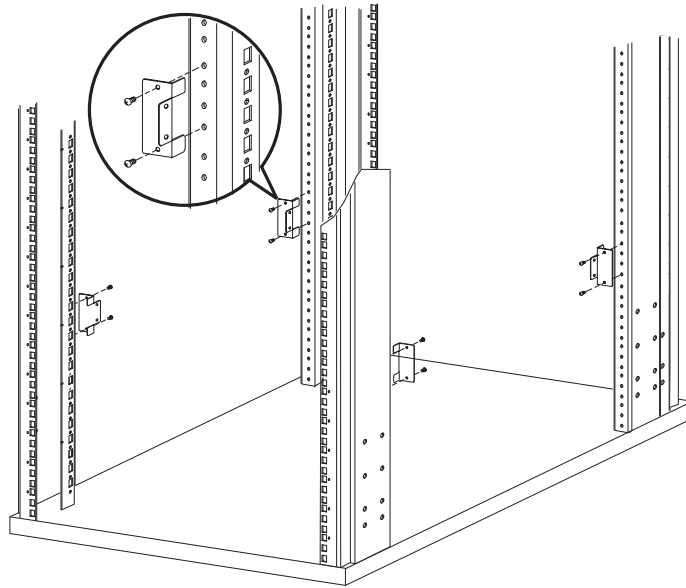

Figure 10: Angle brackets mounted on cabinet rails in HP 9000, HP 10000, and HP 11000 series rack
4. Position a small angle bracket along the interior vertical rail as shown in Figure 10. Align the angle bracket so that the two threaded holes on the small tab align with the 1U location marked in step 3.